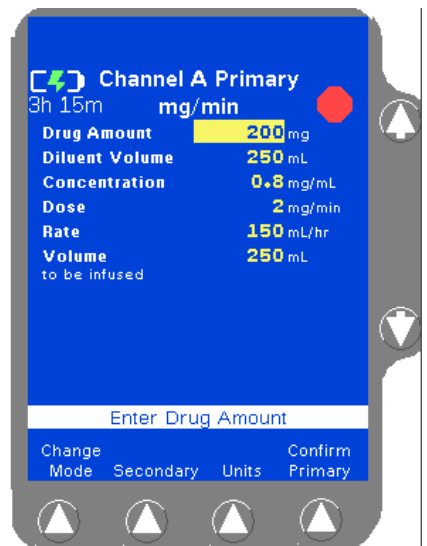

Figure 4-53 Dose Programming Screen
4. Press the **Select** soft key to display the Dose Programming screen (Figure 4-53).